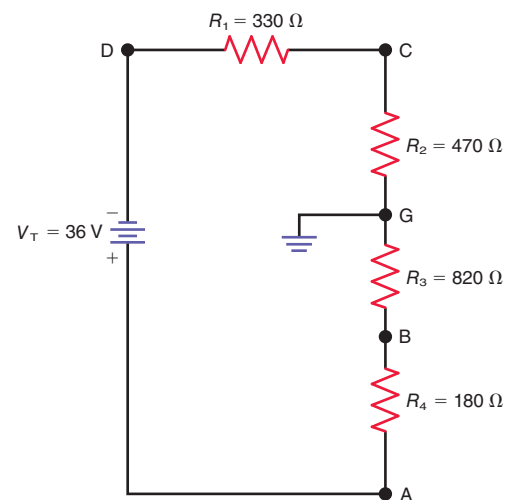

Figure 5-38
5.35 In Fig. 5-38, solve for V_{AG} , V_{BG} , V_{CG} , and V_{DG} .